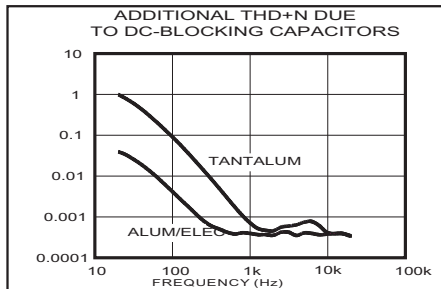

Figure 3. Distortion Contributed by DC-Blocking Capacitors
2) The voltage coefficient of the DC-blocking capacitor contributes distortion to the reproduced audio signal as the capacitance value varies as a function of the voltage change across the capacitor. At low frequencies, the reactance of the capacitor dominates at frequencies below the -3dB point and the voltage coefficient appears as frequency-dependent distortion. Figure 3 shows the THD + N introduced by two different capacitor dielectric types. Note that below 100Hz, THD + N increases rapidly. The combination of low-frequency attenuation and frequency-dependent distortion compromises audio reproduction in portable audio equipment that emphasizes low-frequency effects such as multimedia laptops, as well as MP3, CD, and DVD players. By eliminating the DC-blocking capacitors through DirectDrive technology, these capacitor-related deficiencies are eliminated. The TK0430D features a low-noise charge pump. The 320kHz switching frequency is well beyond the audio range, and thus does not interfere with the audio signals. The switch drivers feature a controlled switching speed that minimizes noise generated by turn-on and turn-off transients. By limiting the switching speed of the switches, the di/dt noise caused by the parasitic bond wire and trace inductance is minimized. Although not typically required, additional high-frequency noise attenuation can be achieved by increasing the size of C2 (see Typical Application Circuit).